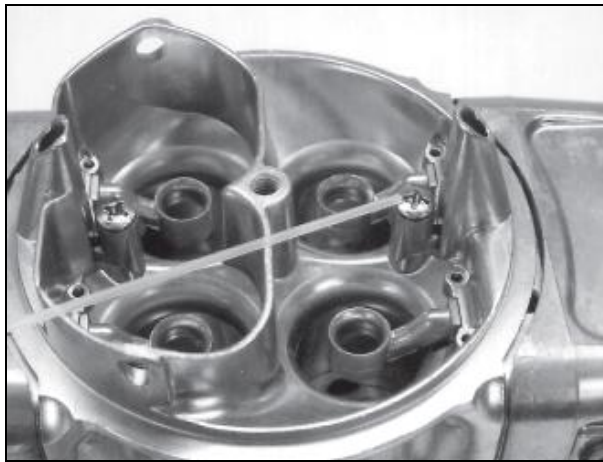

Figure 9
14. The accelerator pump discharge nozzle may be removed by loosening the Phillips head screw and inverting the main body over your hand (Fig. 9). When this is done, the nozzle, screw, and the discharge check needle should fall out. Care should be used in reinstalling the Phillips head screw so as to not strip out the threads.